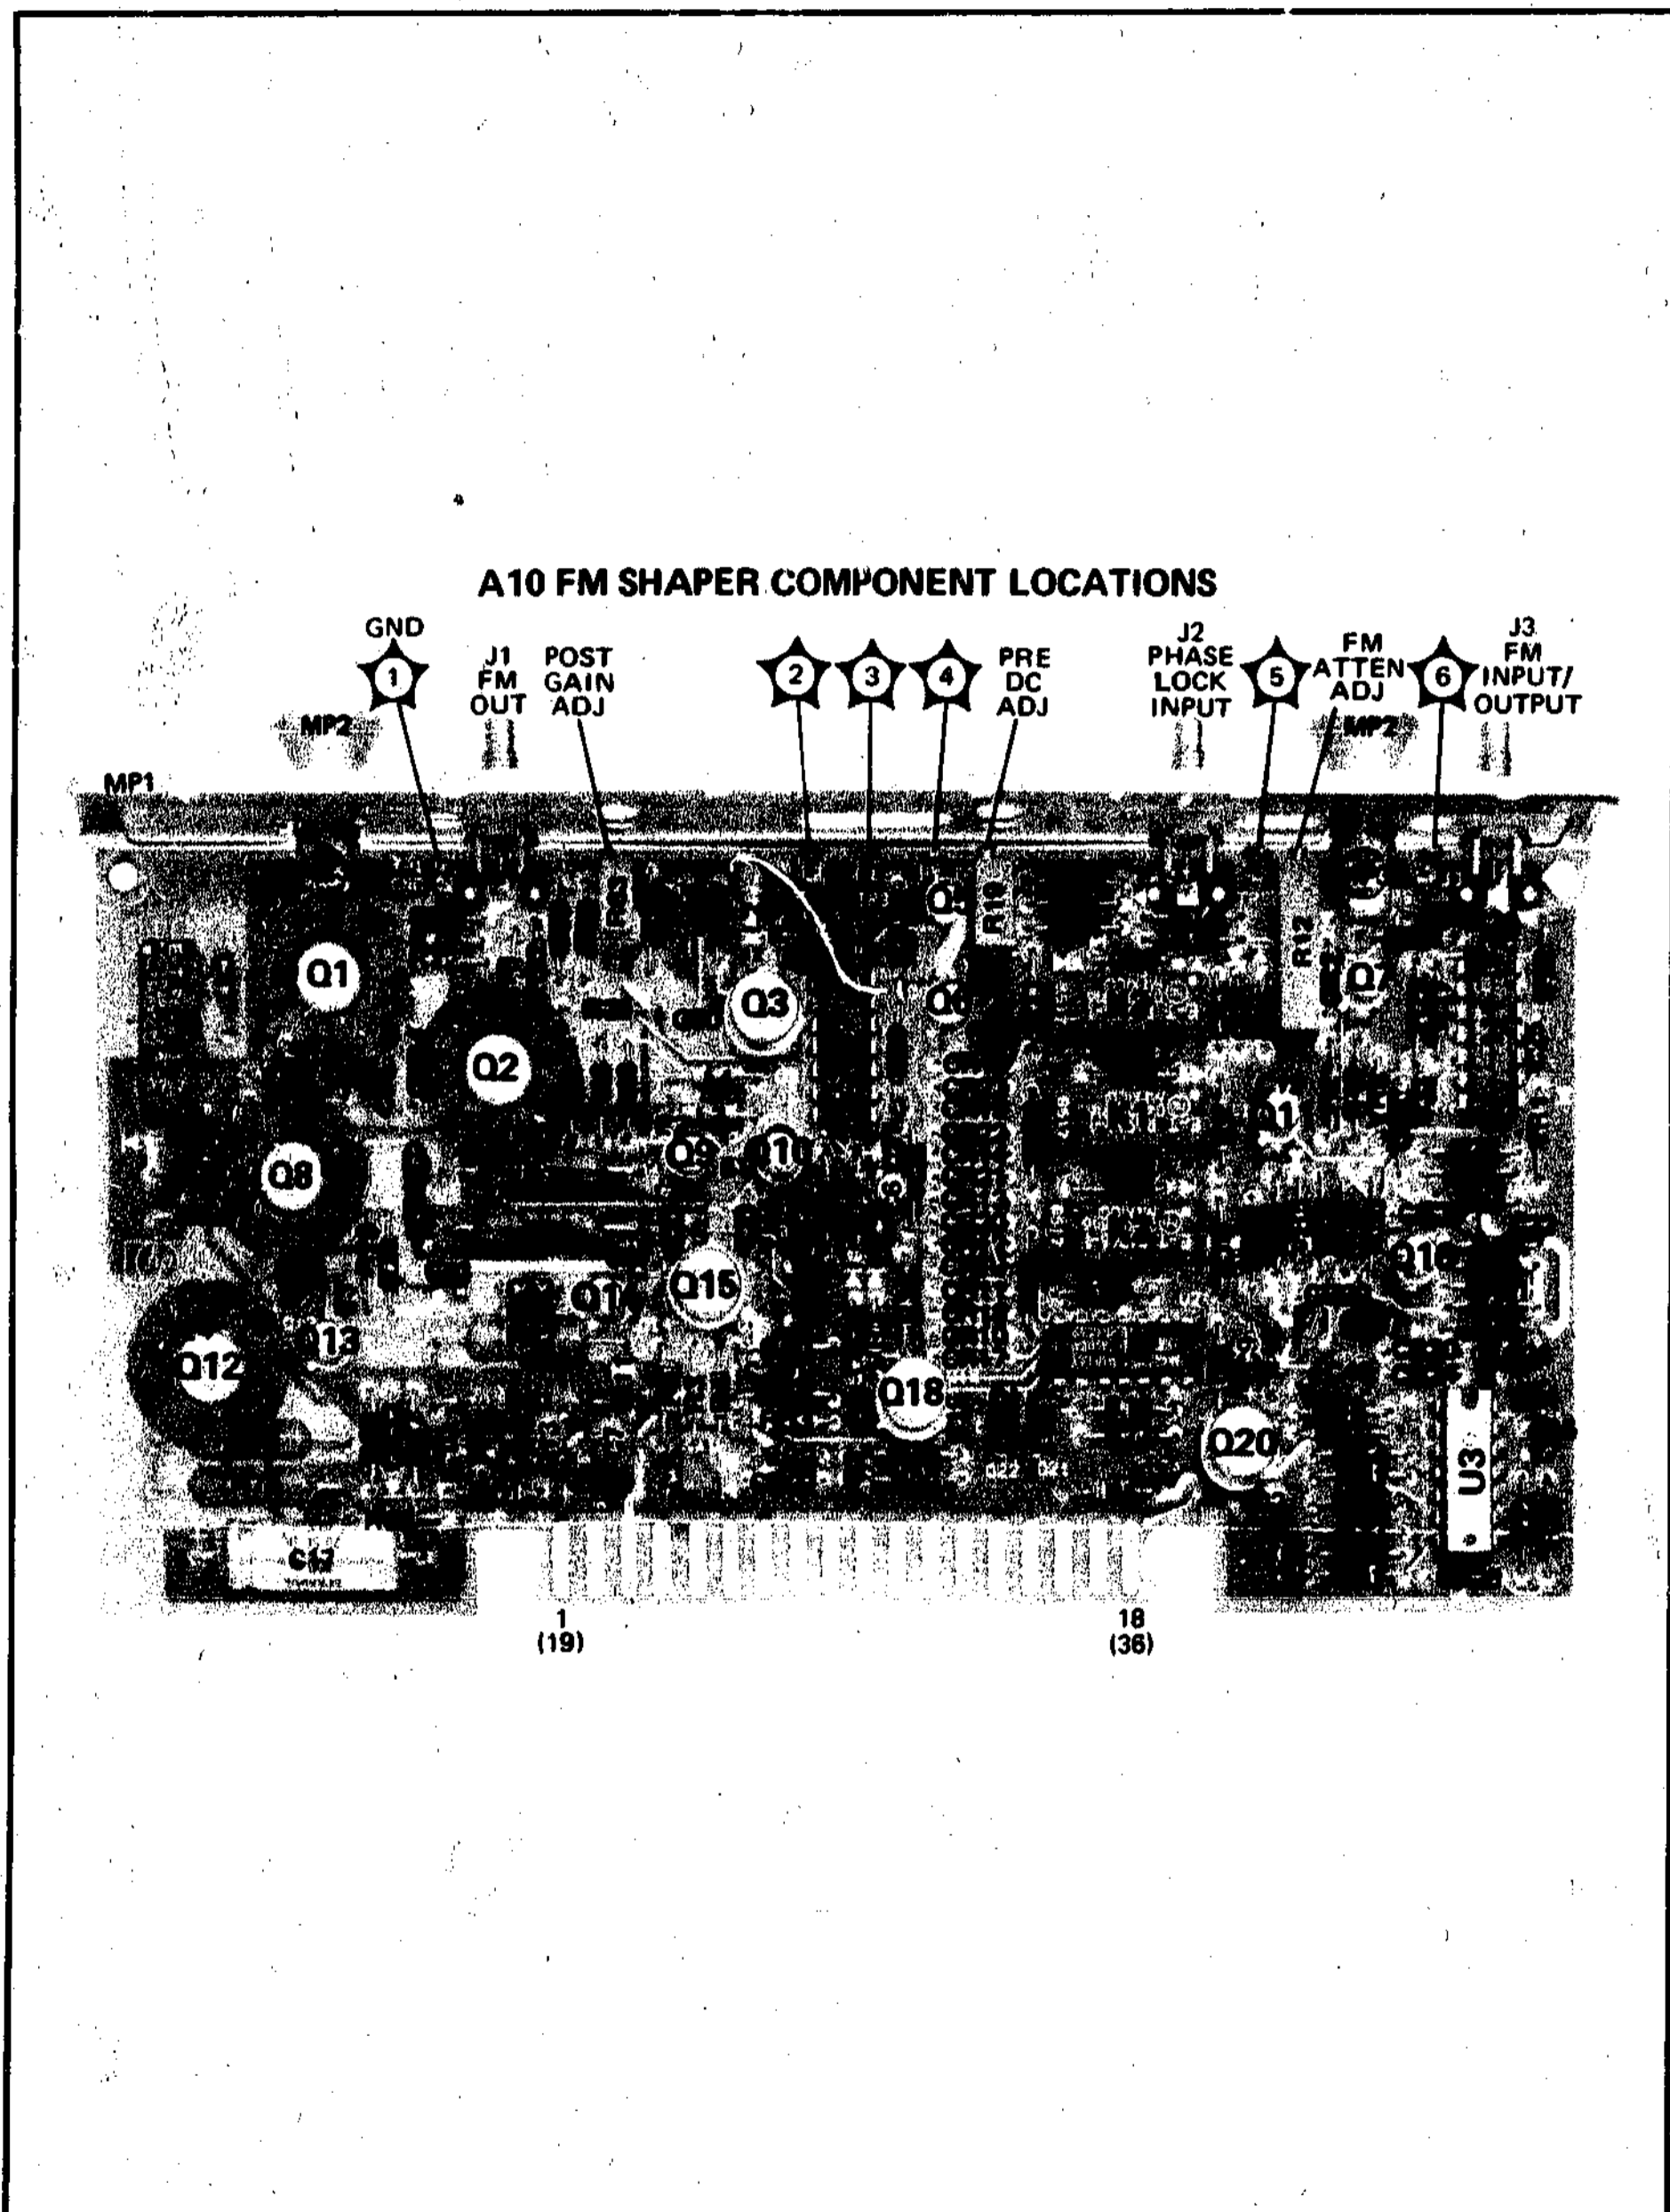

Figure 8-44. A10 FM Shaper Component Locations (Part of Change 7)
**Page 8-54, Figure 8-44:**
Change to Figure 8-44 A10 FM Shaper Component Locations (Part of Change 7) found in this supplement.